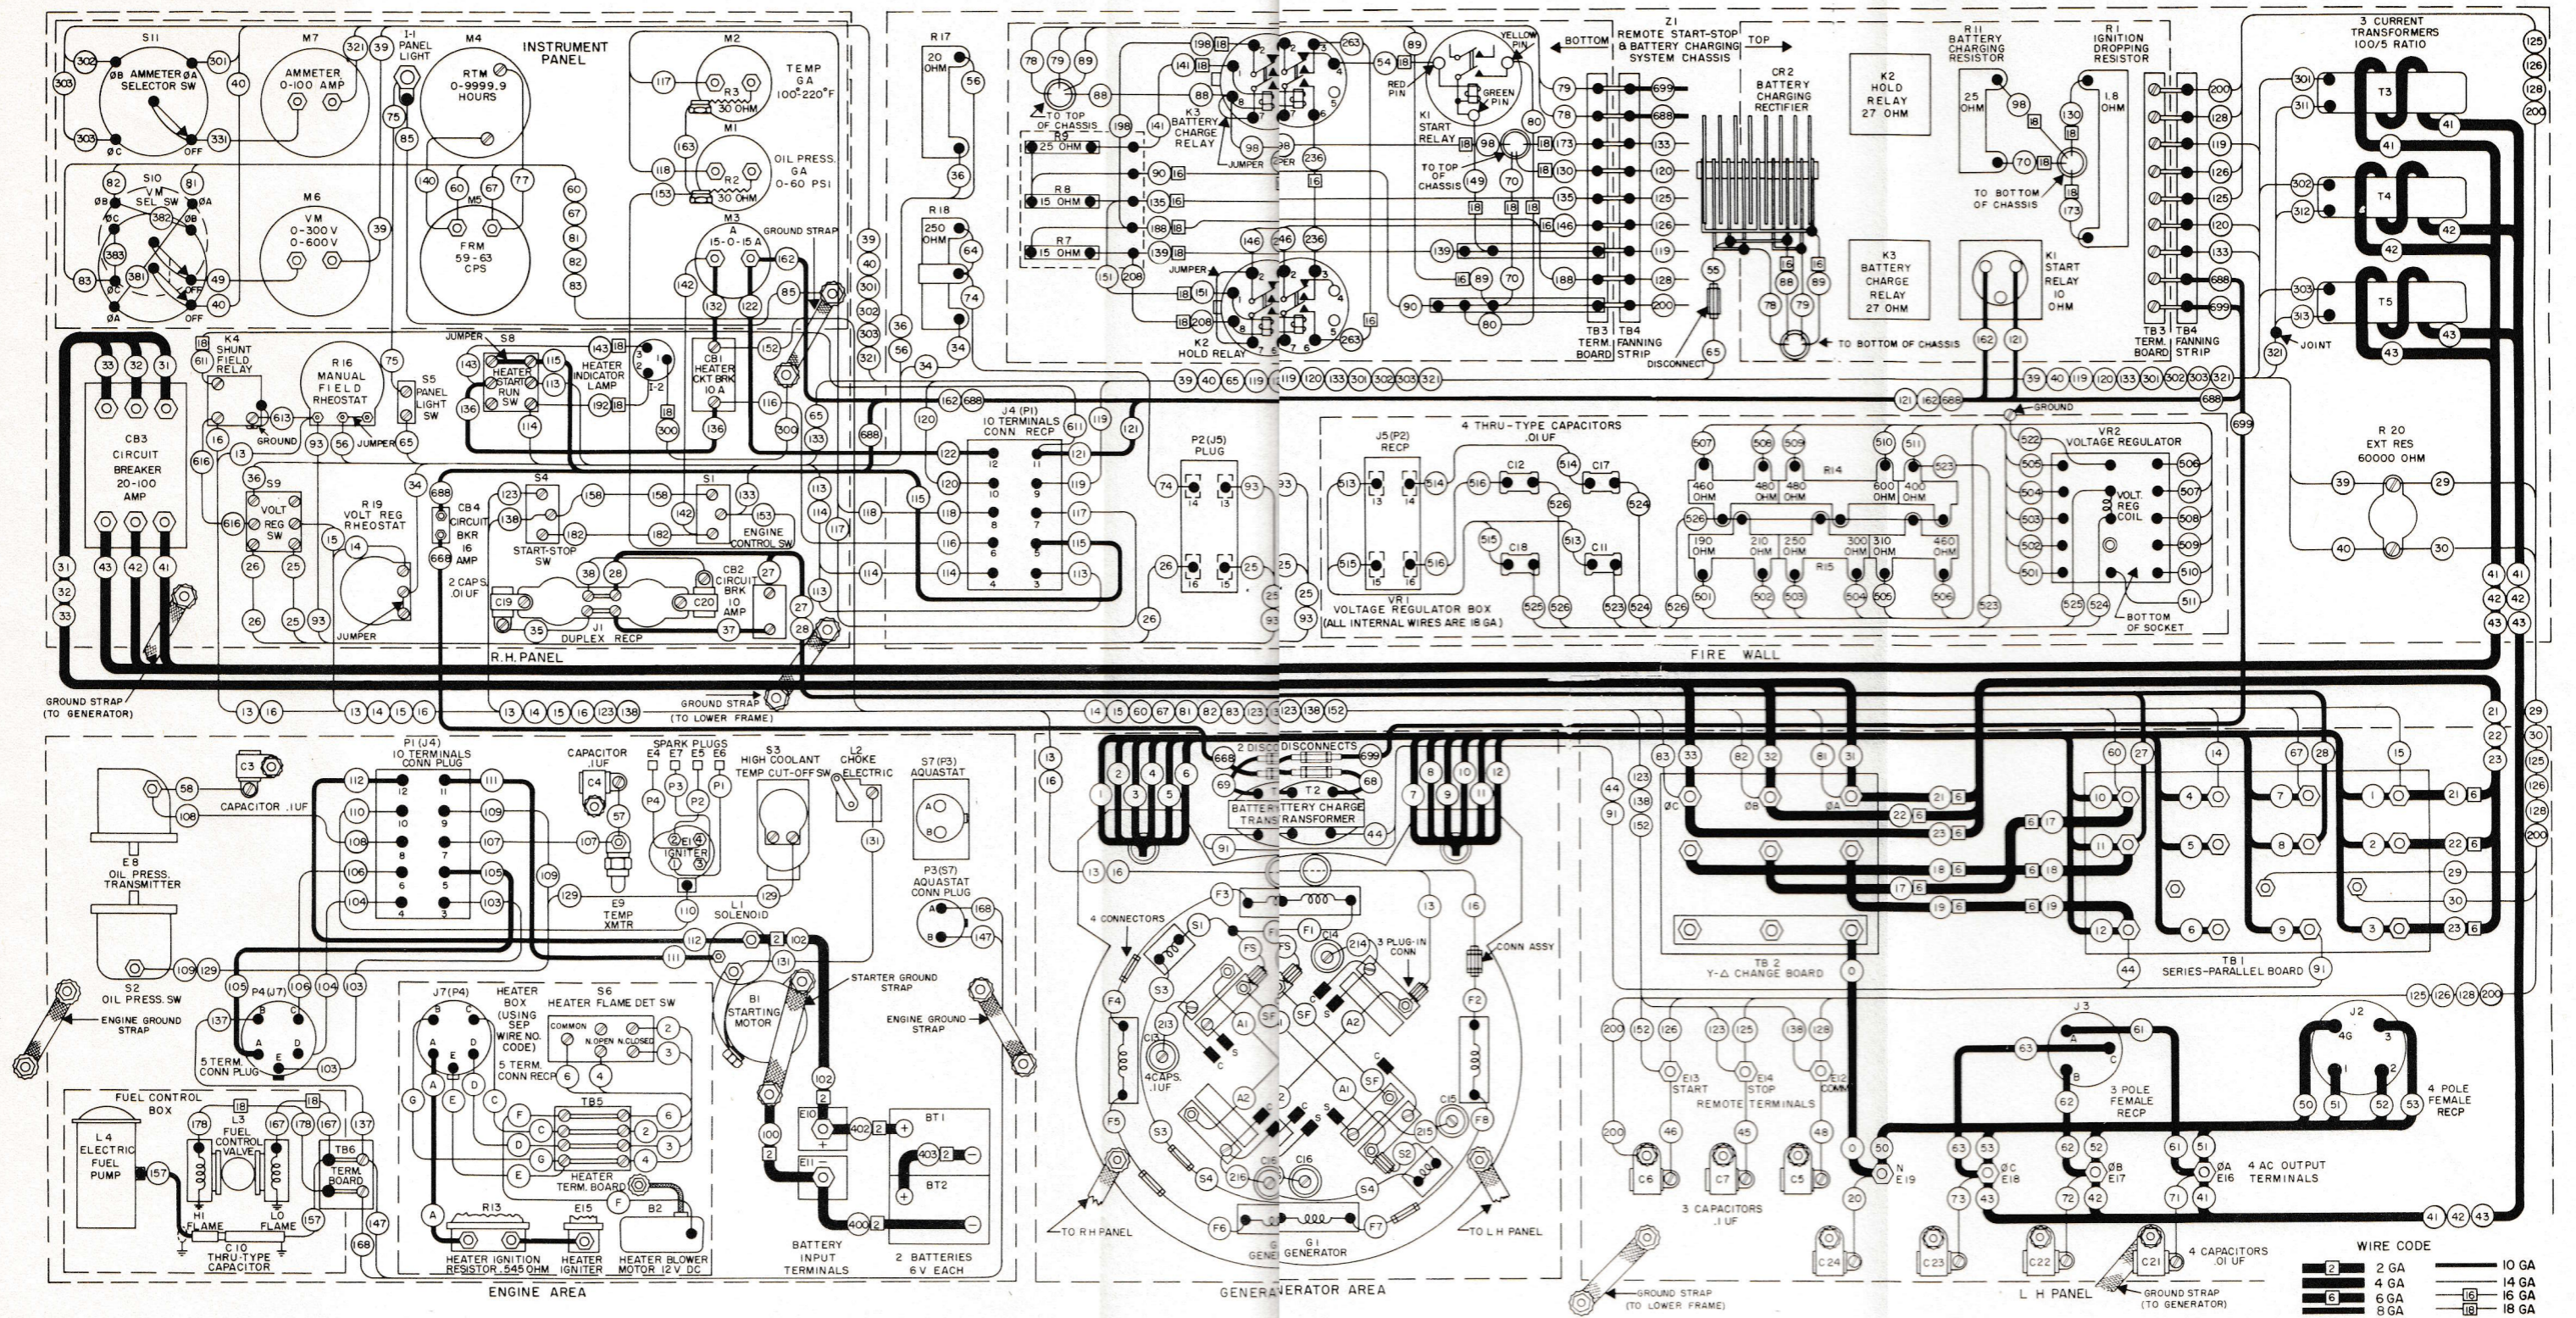

Figure 64. Pictorial wiring diagram.
- (1) Replace the four capacitors (23) in the end bell (2) and secure them with the screws (21) and the lock washers (22). Replace the brush holder assembly (4) with the nuts (18), lock washers (19), and washers (20). The brush holder assembly must be mounted in neutral position. One edge of the brush holder is marked with a spot of paint and the end bell is marked with a similar spot. These two markings must be kept in perfect alignment at all times to prevent excessive arcing of the brushes on the commutator segments.
- (2) Mount the bearing cover plate (11) on the end bell and secure it with the screws (16) and lock washers (17). Use two long bolts and align the inner row of the bearing cover plate with the holes of the bearing liner (46). Heat the end bell around the bearing opening and push the end bell forward to rest in place over the bearing (45) and against the stator housing. Secure the end bell with the screws (12), lock washers (13), and flat washers (14). Remove the two long aligning bolts and replace the screws (9) and the washers (10) in the bearing cover plate.
- (3) Connect the exciter field leads as shown in figure 64. Replace the brushes (7, 8) in the brush holders. Install the brush spring assemblies (5,
- (1) Screw the switch into the bottom of the tee fitting and the transmitter into the top.
- (2) Connect the electrical leads as shown in figure 64.
- (1) Screw the cutoff switch into the coolant outlet elbow with the dial facing the left of the unit.
- (2) Connect the electrical lead as shown in figure 64.
- (1) Secure the starting motor to the fly-wheel housing with the two bolts and lock washers.
- (2) Connect the starting motor ground strap to the engine block.
- (3) Connect the electrical leads to the solenoid switch and starting motor as shown in figure 64.
- (1) *Heater exchanger pan.* Position the exchanger on the engine oil pan and secure it with the two bolts, nuts, and lock washers. Connect the outlet tube to the heat exchanger pan.
- (2) *Heater.*
- (3) *Fuel pump and fuel control valve.*
- (c) Connect the electrical leads as shown in figure 64.
- (1) Secure the fan to the water pump pulley with the four bolts and lock washers.
- (2) Position the radiator on the lower frame and secure it to the bottom radiator support with the two nuts and lock washers.
- (3) Install the coolant hoses to the radiator, water pump, and engine. Tighten the radiator hose clamps.
- (4) Secure the fan guard to the radiator.
- (1) Position the upper frame on the lower frame and secure it at the four corners with the bolts, nuts, and lock washers.
- (2) Connect the four ground straps to the right and left sides of the upper frame.
- (3) Connect the manual CHOKE to the carburetor.
- (4) Secure the radiator to the upper frame with the two bolts, nuts, and lock washers.
- (5) Connect all the electrical leads as shown in figure 64.
- (6) Plug the 10-conductor socket into the receptacle mounted on the fire wall.
- (7) Replace the clip, located on the fire wall, which is used to secure the cable for the manual THROTTLE and the tube for the PRIMING PUMP.
- (8) Reconnect the capacitor to the oil-pressure transmitter.